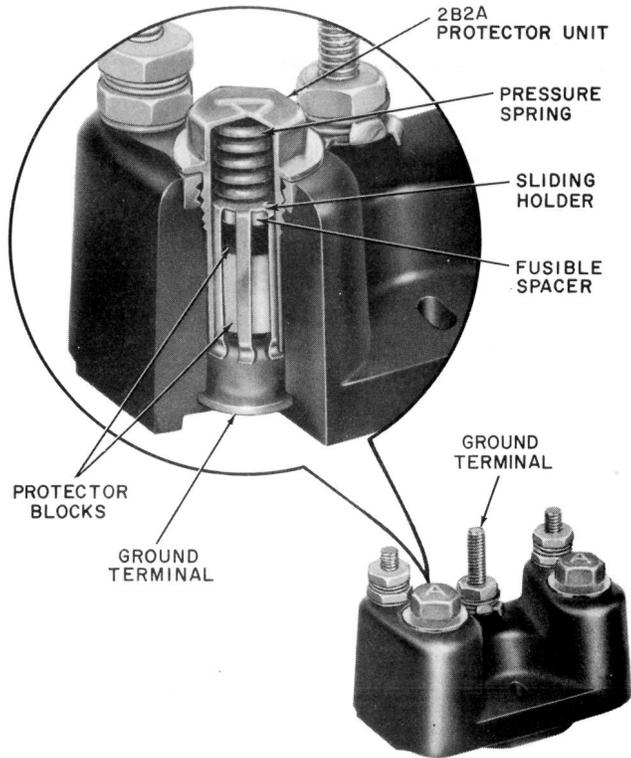

Fig. 2—123A1A Protector
3.03 The **123A1A protector** (Fig. 2) provides protection for one pair of wires. It consists of a nonconductive base containing three binding posts and two 2B2A protector units.